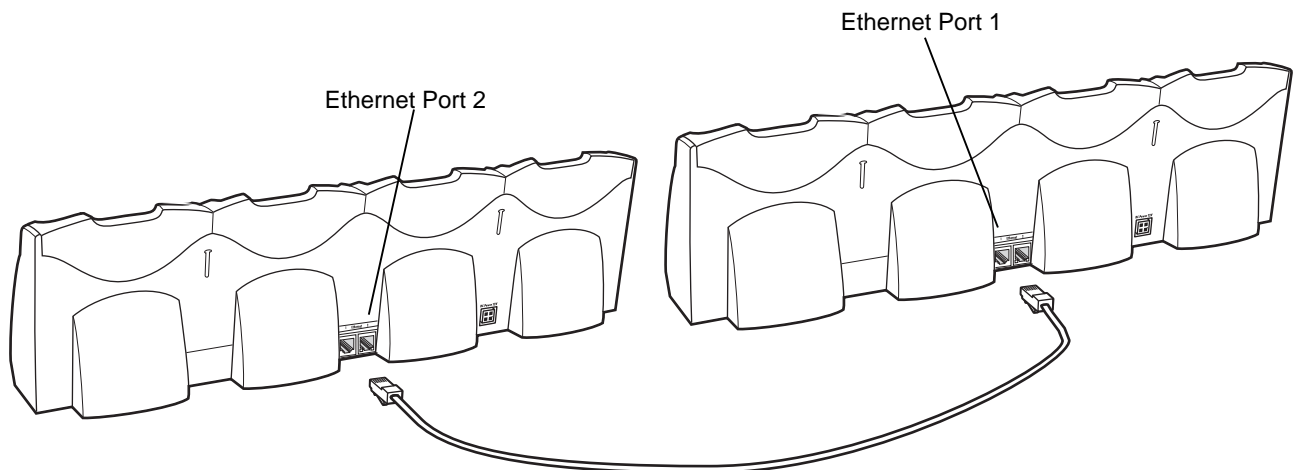

Figure 2-8 Daisychaining Four Slot Ethernet Cradles
2. Connect an Ethernet cable to Port 1 of the first cradle as shown in Figure 2-8.